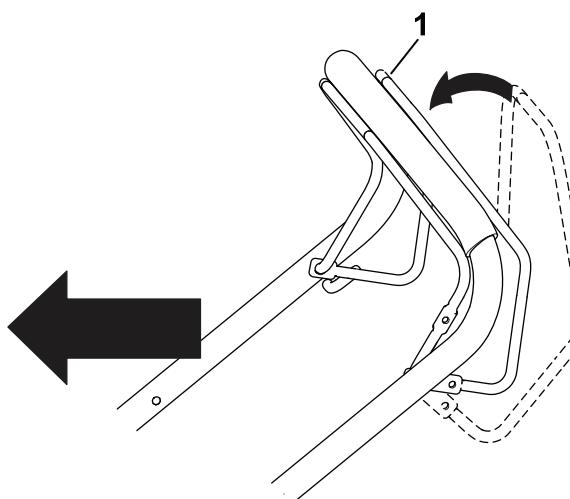

Figure 15
2. Install the mulching plug into the housing and lock the plug into the opening in the housing (Figure 15).